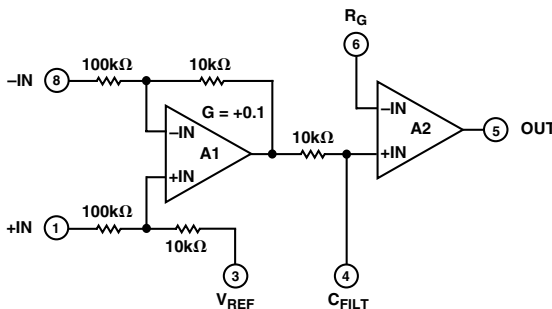
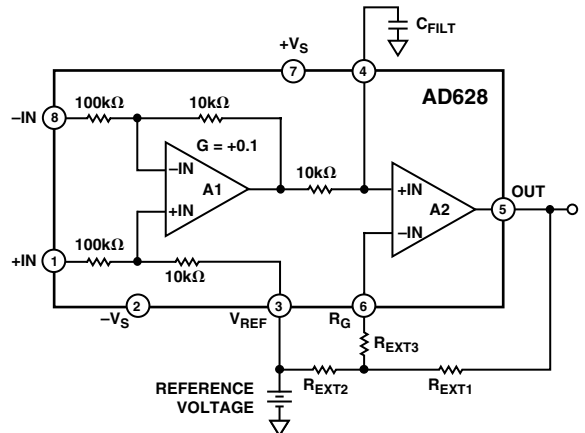

Figure 4-11. AD628 simplified schematic.
Figure 4-12. AD628 circuit connections.
The **AD628** is a high common-mode voltage difference amplifier, combined with a user-configurable output amplifier (see Figure 4-11 and Figure 4-12). Differential mode voltages in excess of 120V are accurately scaled by a precision 11:1 voltage divider at the input. A reference voltage input is available to the user at Pin 3 ( $V_{REF}$ ). The output common-mode voltage of the difference amplifier is the same as the voltage applied to the reference pin. If the uncommitted amplifier is configured for gain, connecting Pin 3 to one end of the external gain resistor establishes the output common-mode voltage at Pin 5 (OUT).
**Table 4-2. Nearest Standard 1% Resistor Values for Various Gains (See Figure 4-12)**